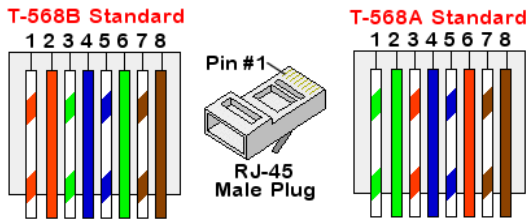

Figure 31: Standard cable wiring
- c. Insert the eight wires into an RJ45 connector, as described *Figure 31*.
- e. Connect the Ethernet connector to the RJ45 port on the communication board as shown in *Figure 31*.